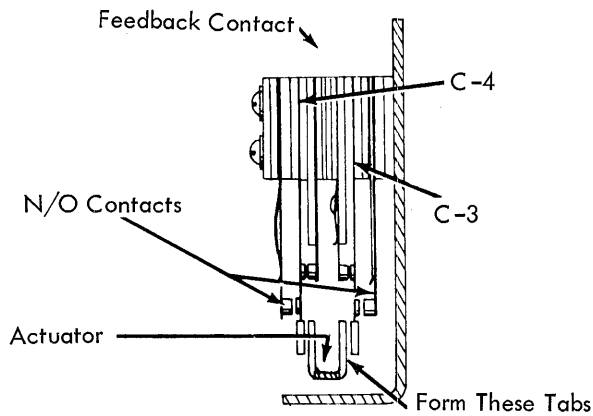

FIGURE 86. Actuator Tabs
6. Actuator Tabs (Fig. 86) - Form so both N/O contacts receive equal motion as the shift cam rotates through 360°.